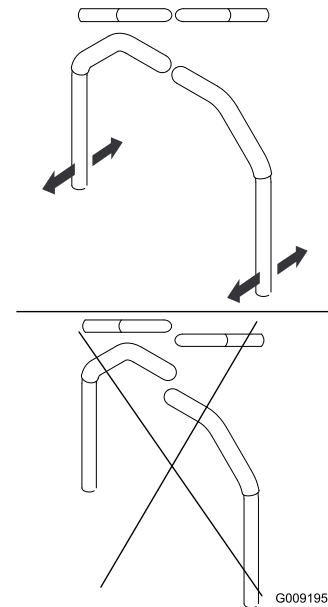

Figure 83
4. Align the levers front to rear position by bring the levers together to the neutral position and slide them until they are aligned, then tighten the bolts (Figure 83).